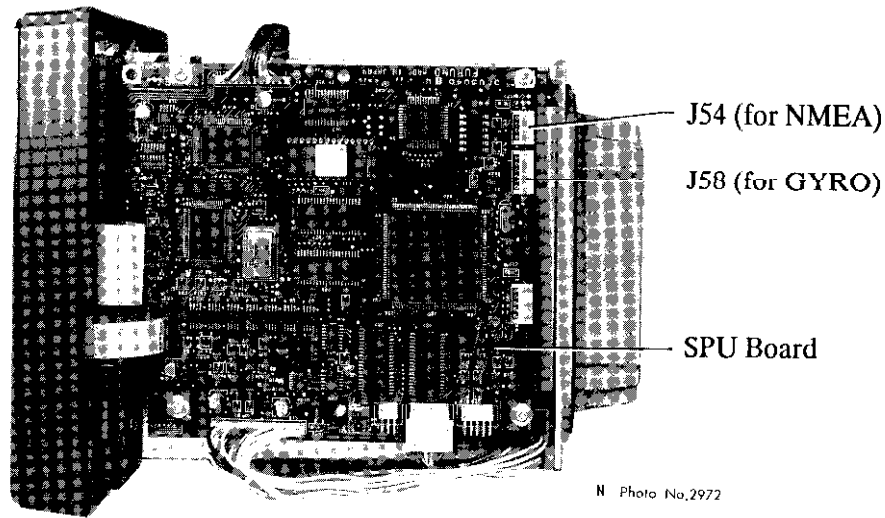

Figure 6-14 Right-side View of Display Unit
4. Mate the 6-pin EH connector of the Cable Assy *A* with jack J58 on the SPU Board. See Figure 6-14 for the location of J58.
4. Mate the 4-pin EH connector of the Cable Assy *B* with jack J54 on the SPU Board. See Figure 6-14 for the location of J54.